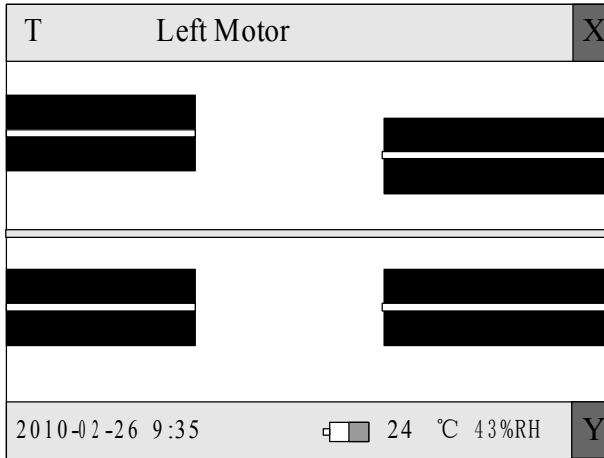

Figure A-4
- b. Enter the test sub-menu, choose the "Motor Adjust" item and press the  key. The splicer will enter motor adjustment status. The screen displays as shown in Fig A-4.